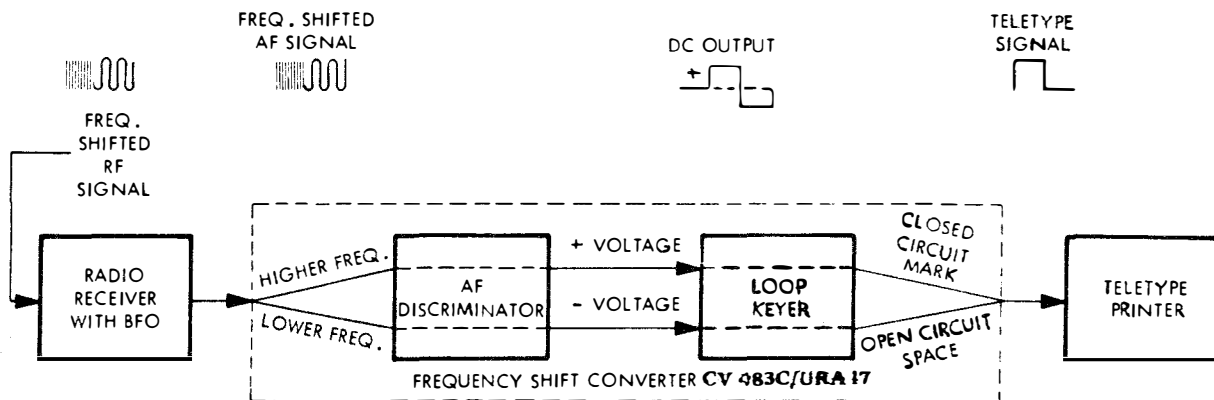

Figure 4-1. Frequency-Shift Receiving System, Simplified Block Diagram
d. **SIMPLIFIED BLOCK DIAGRAM.** - The simplified block diagram, figure 4-1, indicates the basic functions of converting the rf frequency-shift signal into a signal for controlling the dc loop of a teletype printer. The frequency shifts of the audio-frequency output of the radio receiver are converted into dc pulses by the action of an audio-frequency discriminator. The dc pulses are fed into a loop keyer which opens and closes the dc loop of the associated teletype printer in accordance with the mark and space characters received.
The frequency versus mark-space relationship shown in figure 4-1 is the most typical. The higher frequency represents the mark signal and the lower frequency represents the space signal. However, the opposite is also used, or the tuning and heterodyning of the signal in the receiver may reverse the relationship. When such reversed characters are applied to the teletype printer, garbled copy results. A reversing switch (not shown) is provided on each converter to reverse the relationship when required.